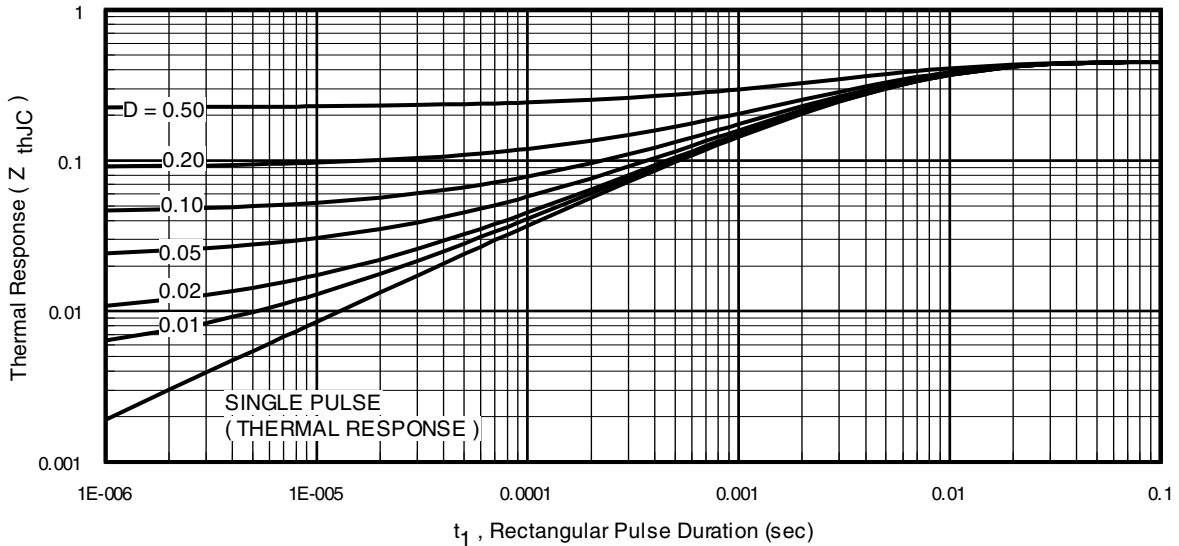

Fig 11. Maximum Effective Transient Thermal Impedance, Junction-to-Case
- ① Repetitive rating; pulse width limited by max. junction temperature. (See fig. 11).
- ② Limited by T_{Jmax}; starting T_J = 25°C, L=0.24mH
$Z_{thJC}(D, t_{av})$ = Transient thermal resistance, see figure 11)